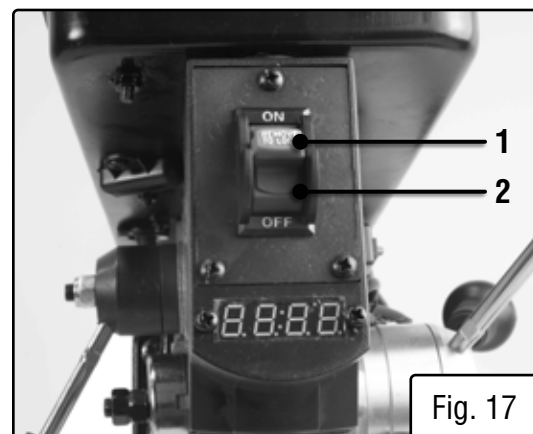

Fig. 17
DRILL PRESS ON/OFF SWITCH (FIG. 17)
1. To turn the drill press ON, insert the yellow safety key (Fig. 17-1) into the switch housing (Fig. 17 - 2). As a safety feature, the switch cannot be turned ON without the safety key.
4. To lock the switch in the OFF position, remove the safety key (Fig. 17 - 1) from the switch. Store the safety key in a safe place.